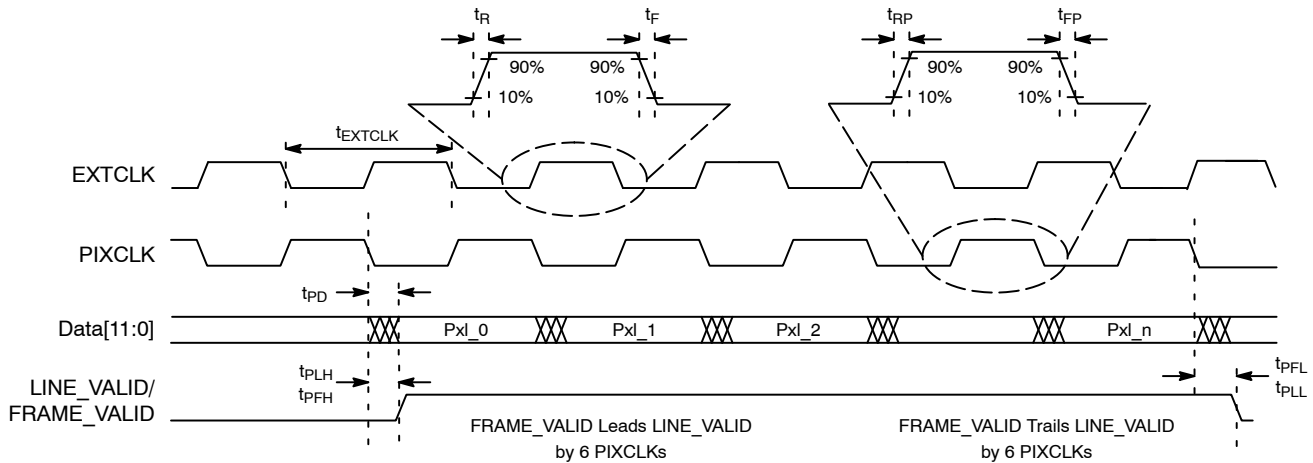

Figure 29. I/O Timing Diagram
See Figure 29 and Table 9 for I/O timing (AC) characteristics.